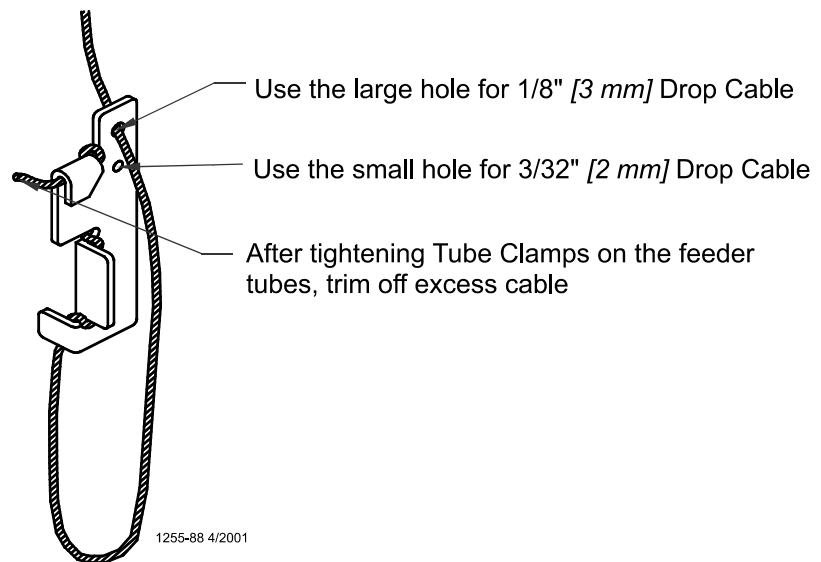

Figure 27. Cable Lock Threading
6. Install Adjustment Leveler within 6" [152 mm] of feeder line. **Figure 27.** shows the proper cable routing around the Adjustment Leveler.
Finally, tighten the Tube Clamps on the feeder tubes. Clamp the joints securely, but do not crush the tubes. Re-adjust all Adjustment Levelers as needed and trim off excess cable as shown in **Figure 27.**